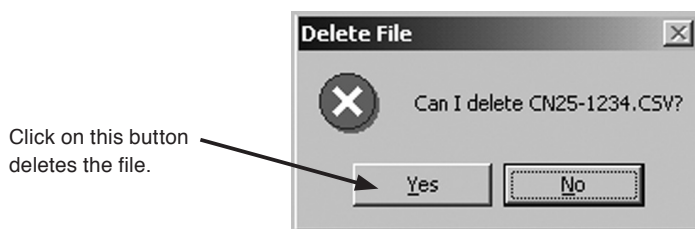

Fig.92
- ① Click on "File (F)" at the top-level menu of the screen, select "Database (F)", select "Delete File (X) Ctrl+X," and click on again.
- ② Select the disk and folder that contains the file you want to remove from the drop-down list.
- ③ Select the file you want to remove by clicking. Acknowledge "File name" and click on "Open" button.
- ④ In response to the clicking, the file you selected opens and a message box as shown in Fig. 92 appears. Click on "Yes" button if you want to delete, or "No" if you do not want. Clicking on "Yes" deletes that file.